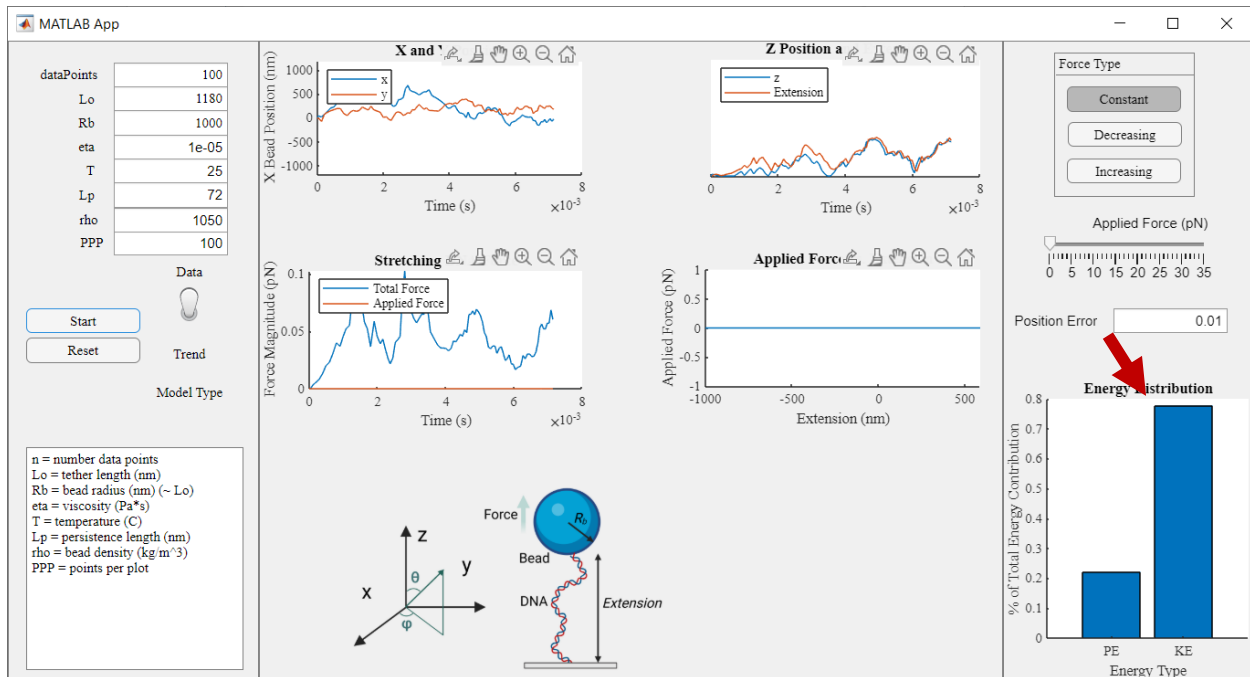

Figure 11: Example of kinetic energy (KE) dominating. The viscosity (η) was set to 10^{-5} Pa*s.
As mentioned in the publication, the simulation is valid, if the potential energy (PE) dominates. Typically, kinetic energy dominates, if low values for the viscosity are set as shown in Figure 11.